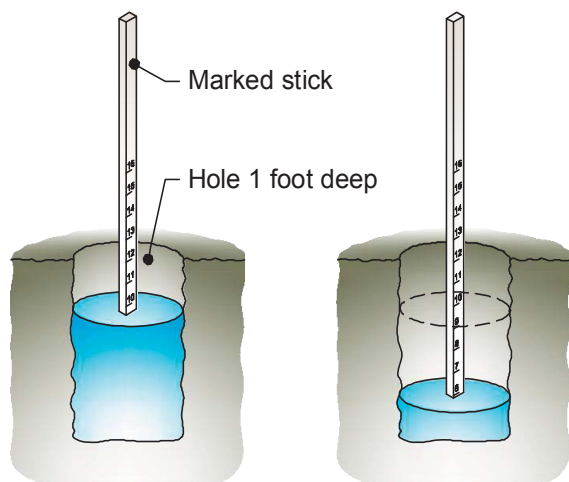

Figure 2. Drainage test.
1. Dig a hole, approximately 1 foot deep, in the area where you plan to infiltrate graywater. Insert a ruler or stick marked with inches into the hole (Figure 2).